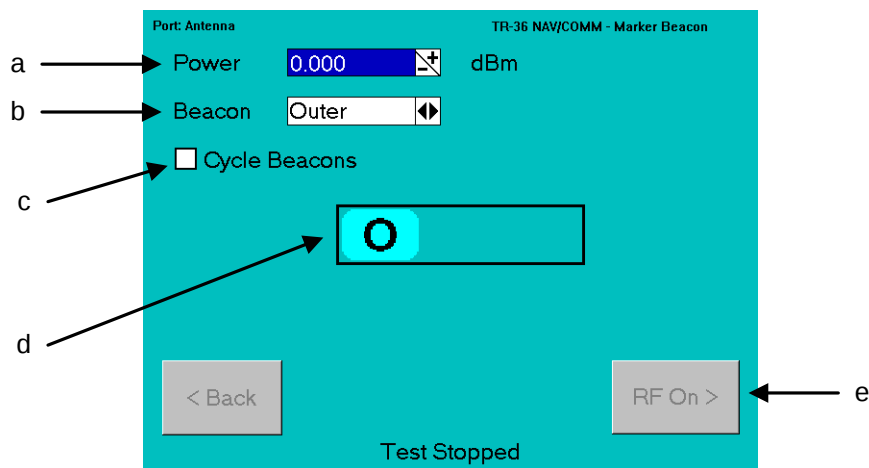

Figure 2-32. Marker Beacon Menu
5. The Test allows the operator to select the following settings (Table 2-10 and Figure 2-32).